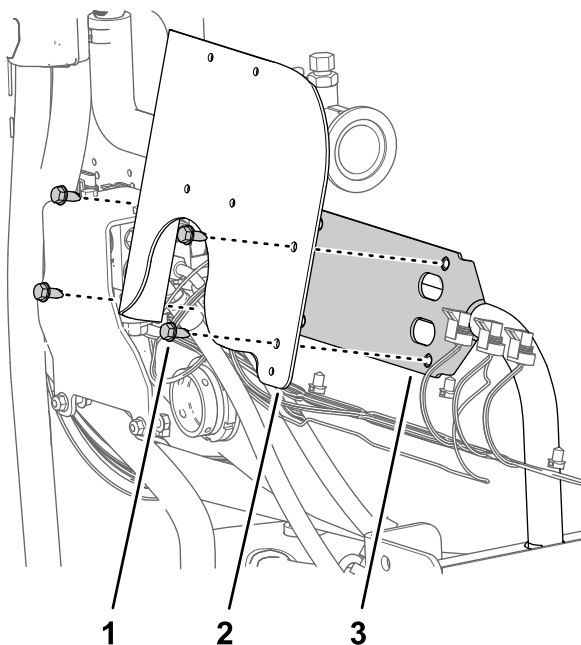

Figure 74
1. Align the holes in the flow-meter bracket with the holes in the valve mount (Figure 74).